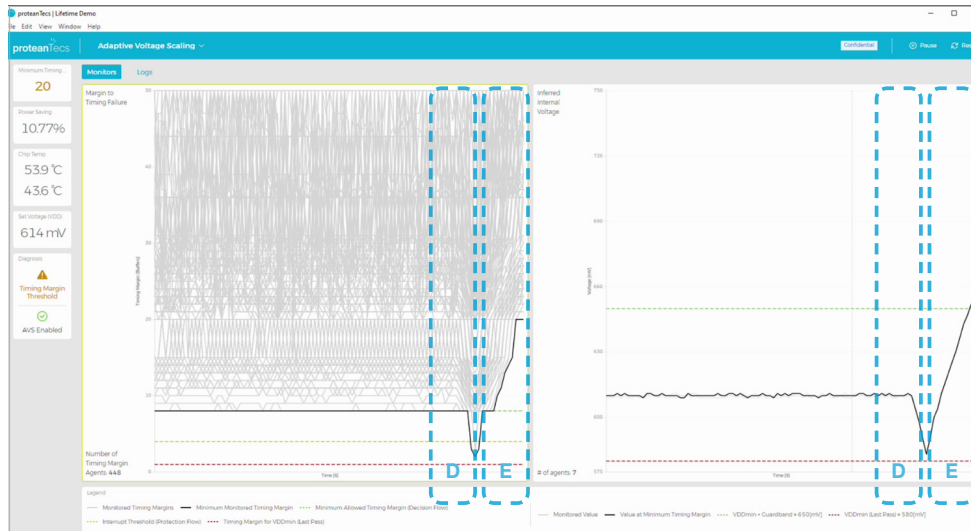

Figure 10: AVS Pro recovery from performance degrading event
**Figure 10** shows what happens when a protection event takes place.